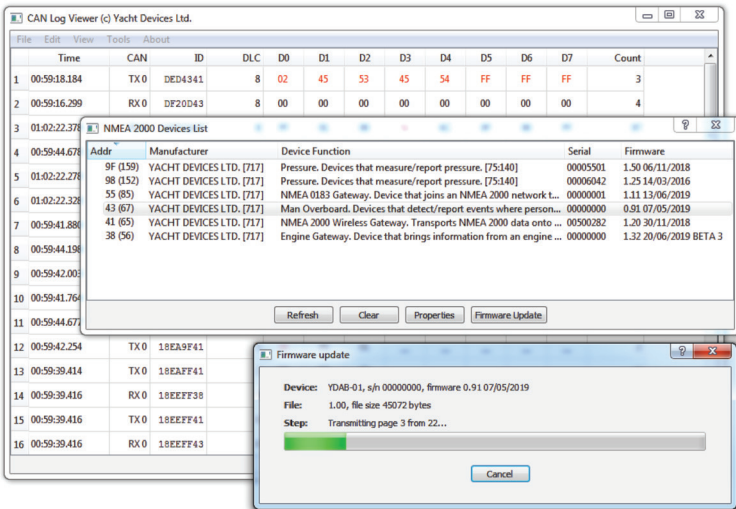

Figure 7. Firmware update of Alarm Button YDAB-01
2. Click "Refresh" button (see Figure 7 at the next page) in opened window and wait for Device to appear in the list.